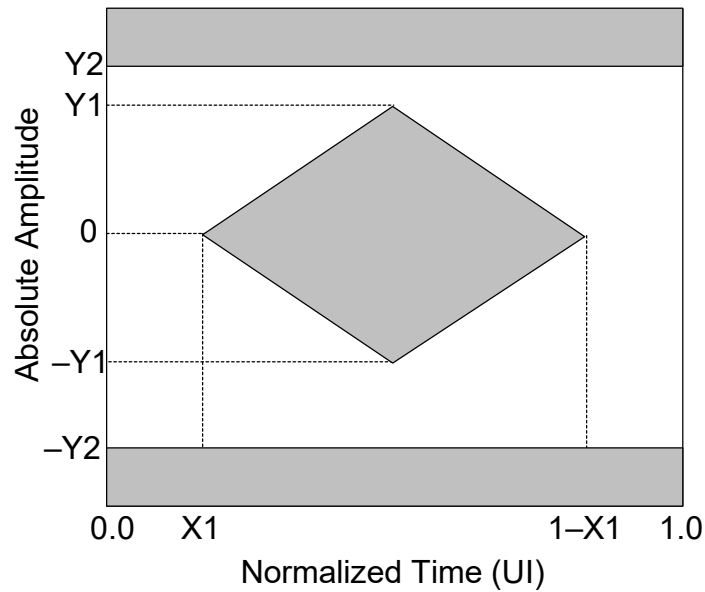

Figure 5. Transmitter Differential Input Mask (TD)
- The jitter tolerance given in Figure 5 is in addition to the random and deterministic jitter given in this table.